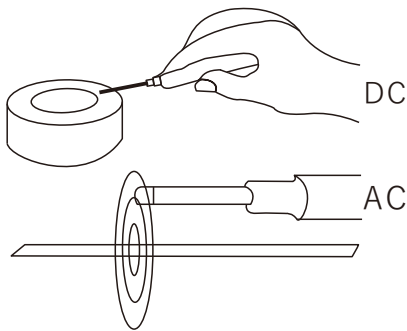

图 1-1
2. The diagram and description of the magnetic field measured by the handheld sensor are shown in FIG. 1-1. Use the end of the hall element at the front end of the sensor to lightly touch the surface of the magnet being measured or the position of the spatial magnetic field being measured at a position of 2.3mm.(**Note:** the non-graduated side of the probe is attached to the measured object, while the metal probe is attached to the non-polka-dot side)